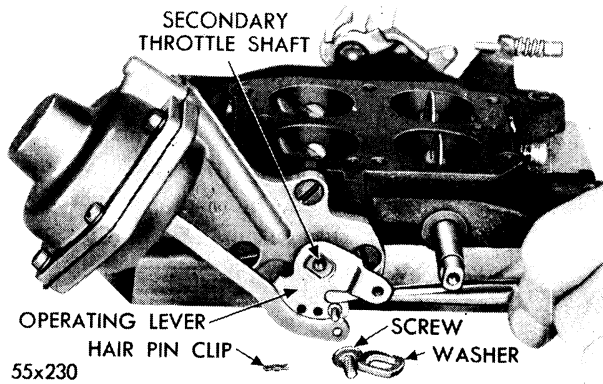

Fig. 17—Installing Diaphragm Operating Lever
- (15) Slide the operating lever over end of secondary throttle shaft with the arm pointing toward the primary throttle shaft as shown in Figure 17.
- (16) Install spacer, washer, and screw; then connect the diaphragm plunger rod with the operating lever and install hairpin clip. To check the diaphragm for operation, release the secondary lockout arm; then open the secondary throttle, using the